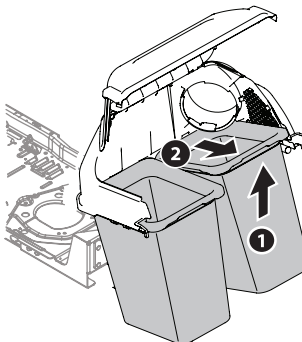

Figure 19
2. Remove the grass bags by lifting these up (1) and moving the bags away from the bag support assembly (2). See Figure 19.